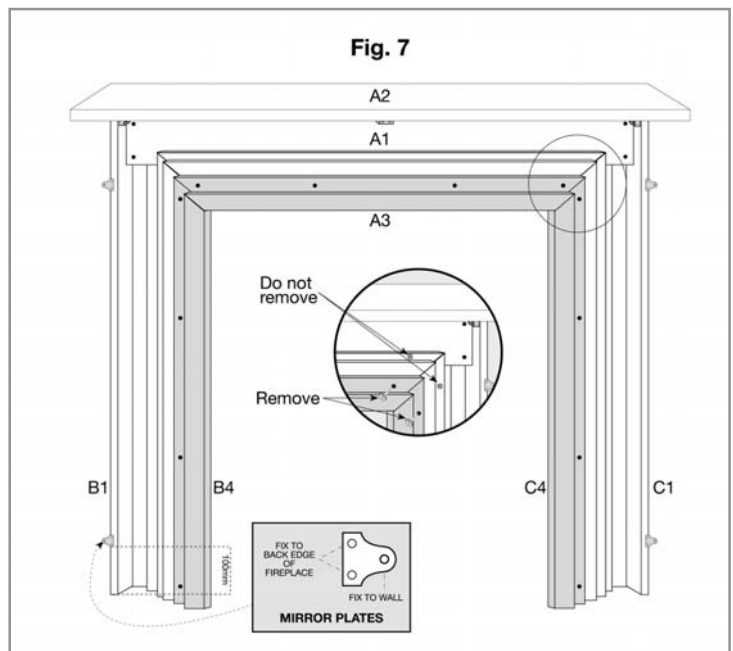

Fig. 7
Step 7: (see Fig 7)
Note: If the fireplace is to be installed in conjunction with an electric fire, remove parts highlighted in Fig 7, by removing the existing 12 off screws, and lifting off components. See detail below.